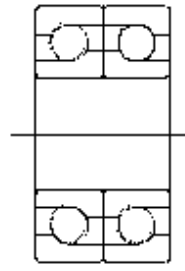

Fig. 5-5.
- ③ Check to confirm that the ball bearings are inserted to the extreme interior, utilizing the ball bearing inserting jig and slightly tapping with a hammer.
- ④ The same procedure can be performed for the female screw rotor as shown in Fig. 5-5.